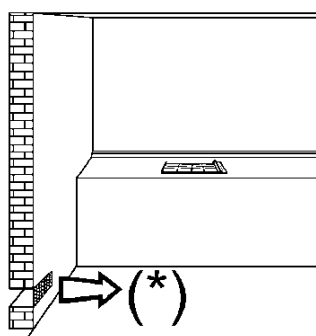
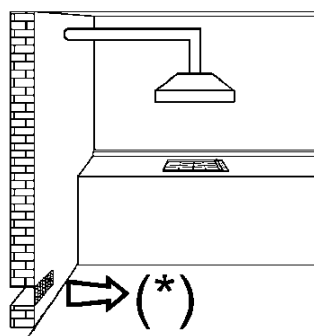
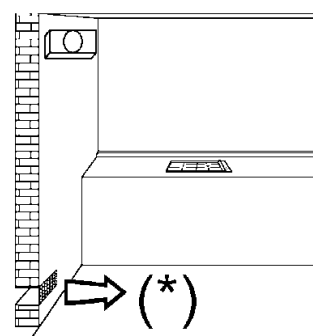

FIG. 3
FIG. 4
FIG. 5
- *use of a gas cooking appliance produces heat and moisture in the room in which it is installed. The room must therefore be well ventilated by keeping the natural air vents clear (see fig. 3) and by activating the mechanical aeration device (suction hood or electric fan fig. 4 and fig. 5).*
Natural air flow must enter directly through permanent openings in the walls of the room in question. These must open towards the outside and possess a minimum section of 100 cm2 see fig. 3). It must be impossible to obstruct these openings.
Gas cooking appliances must always dispose of their combustion fumes through hoods. These must be connected to flues, chimneys or straight outside (see fig. 4). If it is not possible to install a hood, an electric fan can be installed on a window or on a wall facing outside (see fig. 5). This must be activated at the same time as the appliance, so long as the specifications in the provisions in force are strictly complied with.